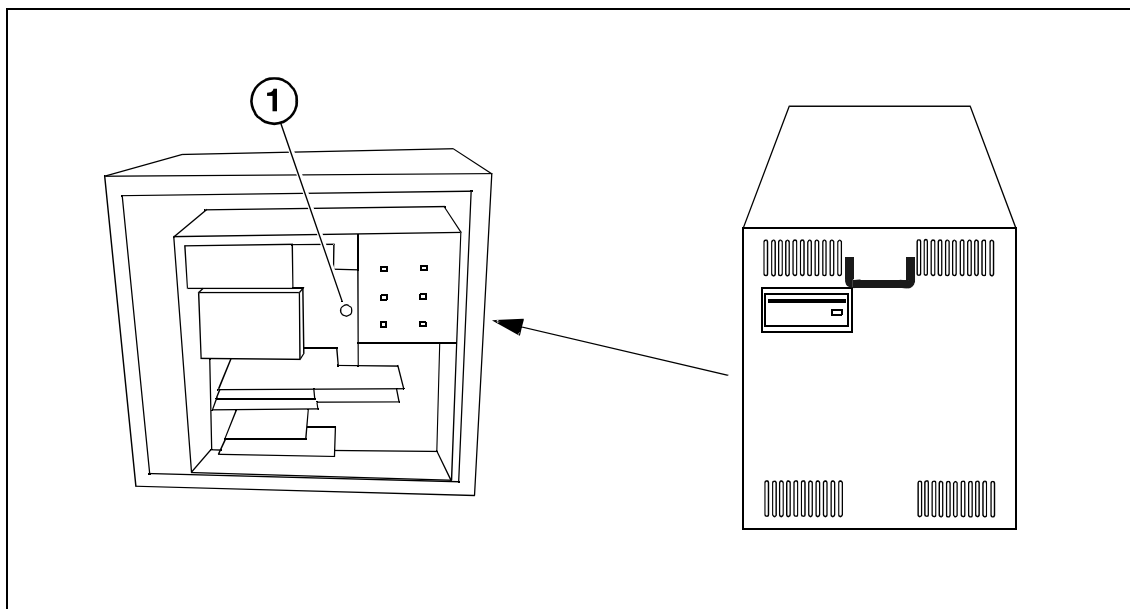

Fig. 3
- Remove the cover panel on the left side of the FLUOROSPOT Compact container (Fig. 3).
- Dispose of the coin cell on the mother board (1/Fig. 3); ***lithium battery***.